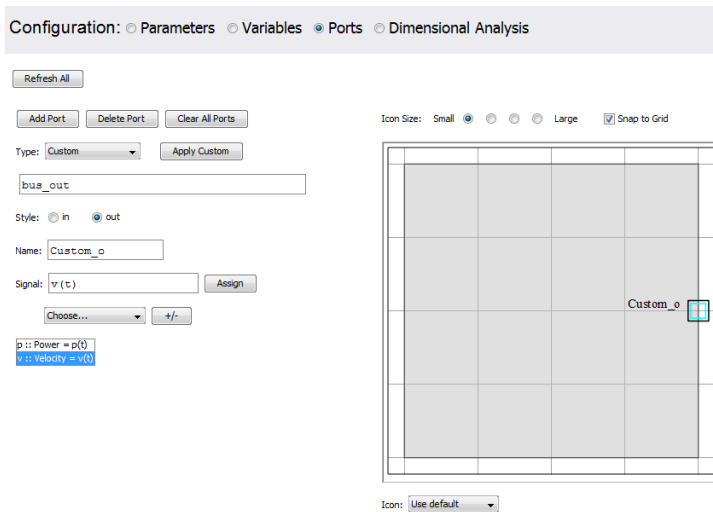

Figure 6.10: Using a Custom Port
14. Using the drop-down menu and list box at the bottom of this section, assign the power signal to  $p(t)$  and the velocity signal to  $v(t)$ . **Figure 6.10** shows the completed Ports section of the template.